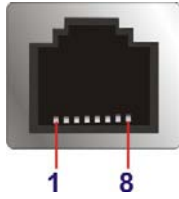
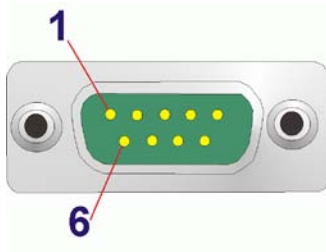

Figure 3-24: RJ-45 RS-232 Serial Port Pinout Location
Figure 3-25: DB-9 Connector Pinout Location
- CN Pinouts: See **Table 3-7, Table 3-8, Figure 3-24 and Figure 3-25**